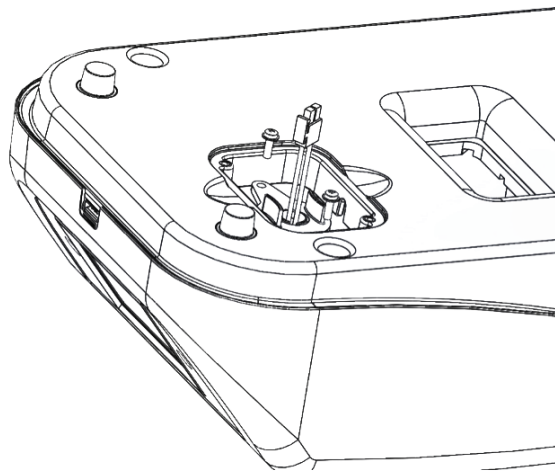

Fig. 2
4. Detach the electrical connector (fig 2).